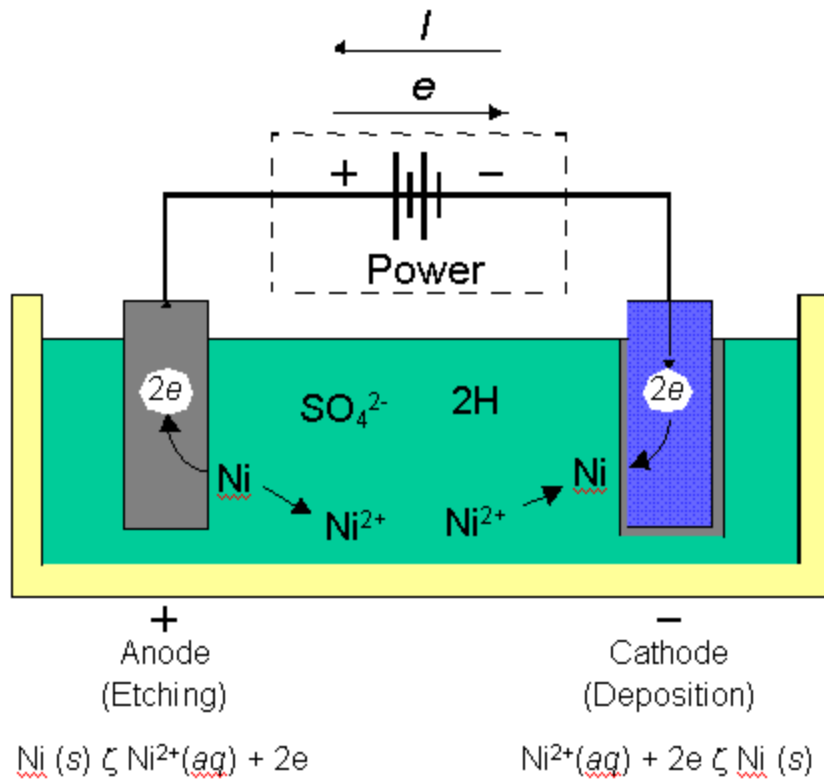

Figure 1 Electroplating Setup
- vi. Spin at (I) 200 rpm, 10 seconds and stop. (II) 1000 rpm, 30 seconds. This spin speed will provide ~ 25 μm thickness.
- x. Post Bake (I) 65°C for 1 minute and (II) 95°C for 3 minute.
- i. Set up the electroplating bath as shown in the Figure1.